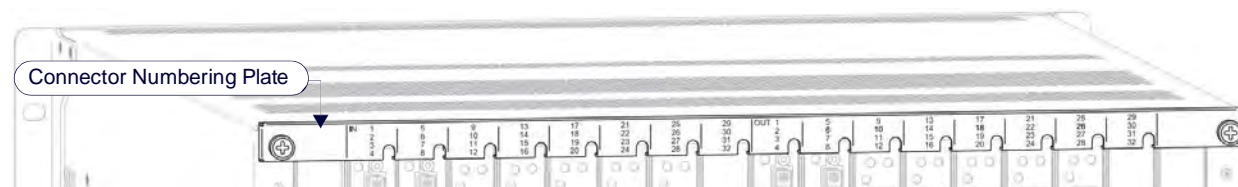

FIG. 17 Connector Numbering Plate (DGX 3200)
1. **Enova DGX 3200 only** – Loosen the two captive screws that hold the Connector Numbering Plate at the top of the connectors (FIG. 17). Remove the Connector Numbering Plate and set aside.